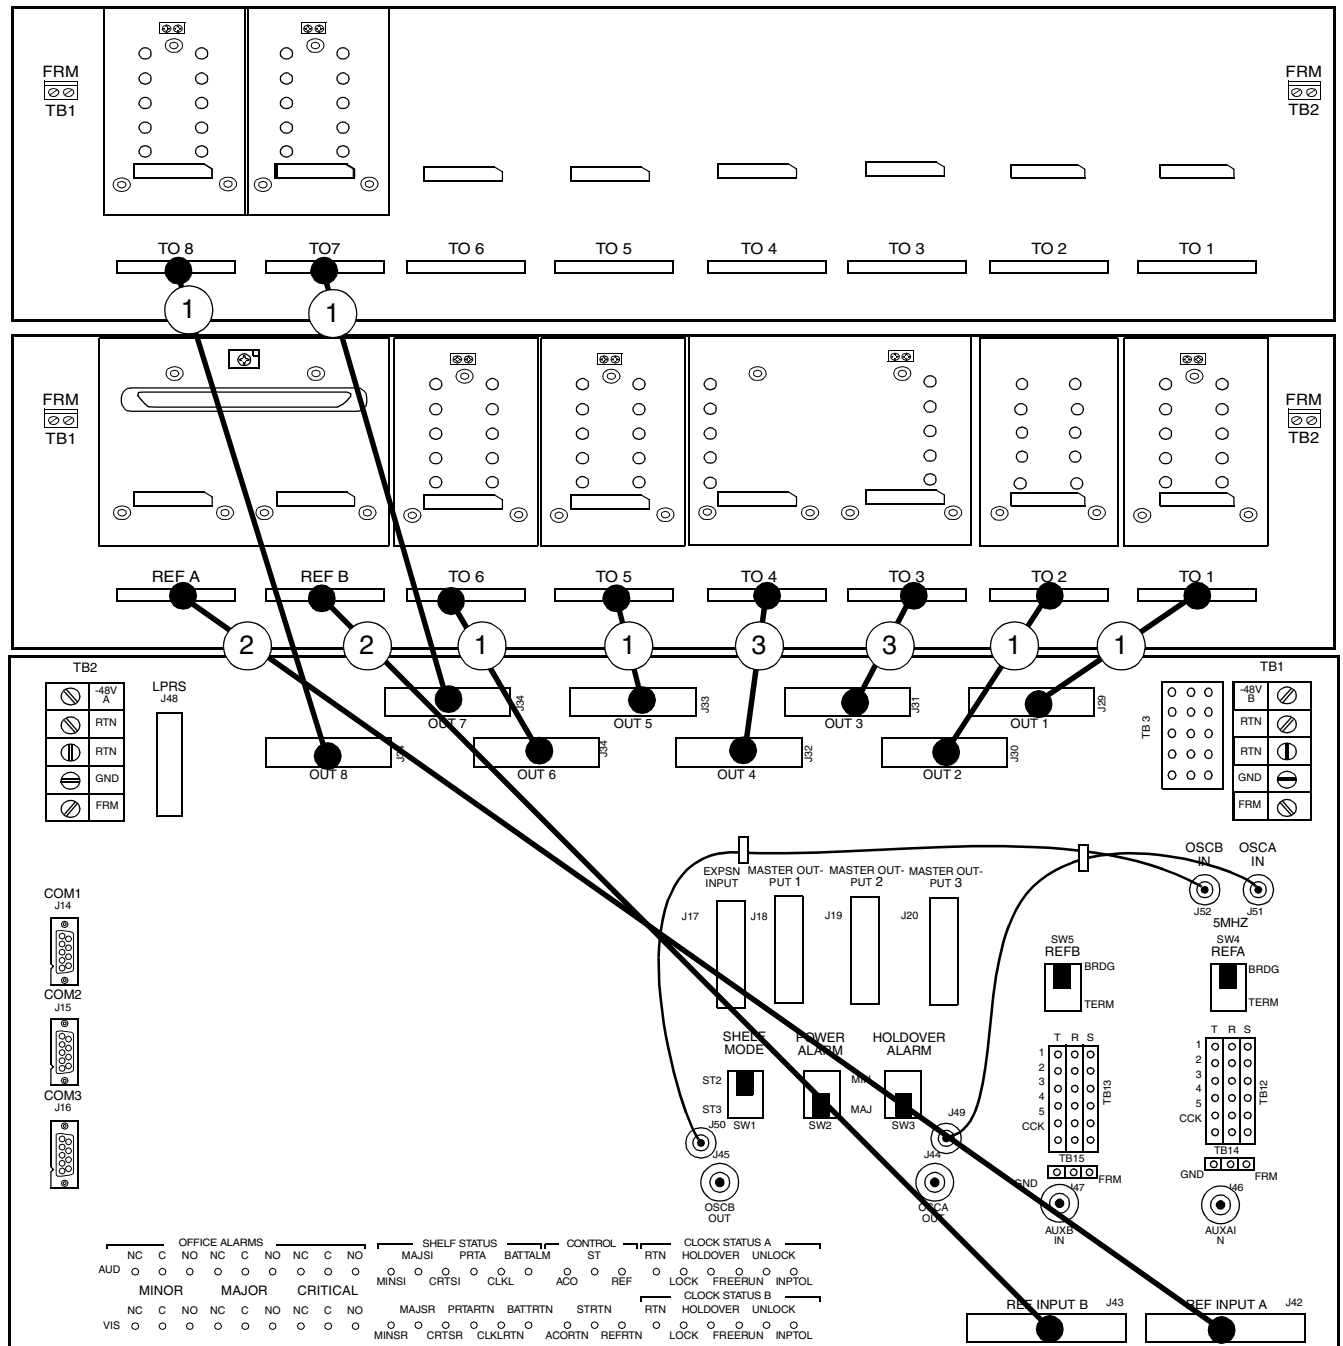

Figure 14. Shelf to Modular Mounting Panel Connections (Typical)
3.05 To connect a shelf to a modular mounting panel (MMP), refer to Table K, Table L, Figure 14, and the following:
1. If reference inputs are to be connected at the MMP, connect the provided ribbon cable between REF A on the MMP and REF INPUT A (J42) on the master shelf rear panel, and between REF B on the MMP and REF INPUT B (J43) on the master shelf rear panel (Figure 14).